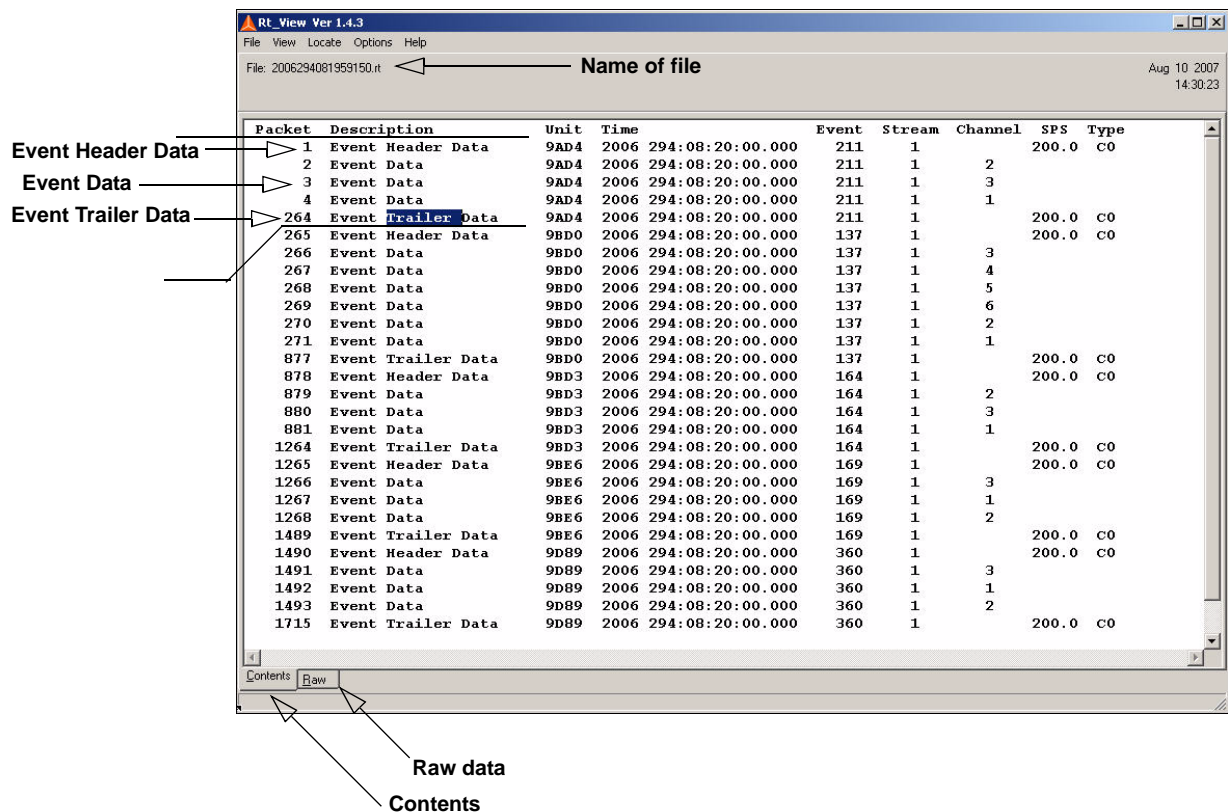

**Figure 2 - 3 Options menu**
7. If there is no event data, the viewer will open showing the table of contents of the event file as shown in Figure 2 - 4.
Contents of a State-Of-Health file (Figure 2 - 5).